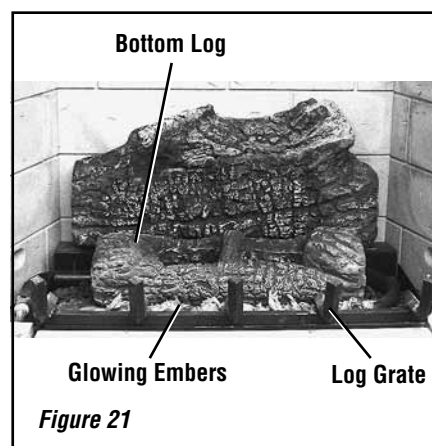

Figure 21
Step 2. Position the bottom log, (see **Figure 18 and Figure 21**) between the two vertical brackets of the burner tray.
Remove the Glowing Embers from the plastic bag and tear into quarter size pieces, as shown in **Figure 21**. Spread across the front part of the burner. Do Not use more than is necessary to cover the burner. When properly positioned, the Glowing Embers will unevenly cover approximately 85% of the burner with no appreciable gaps.